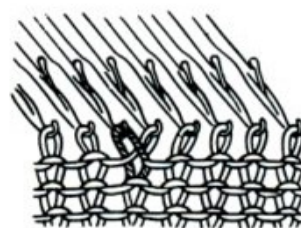

Fig. 62
- 3) Pick the neighboring lower stitch onto the empty needle. (See Fig. 62)
Raise the neighboring lower stitches to the empty needles. (as in Fig. 62)